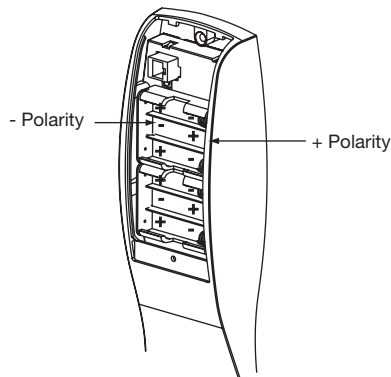

Fig. 2
3. Place (6) "AA" batteries into the compartment being careful to align polarity properly (Ref. Fig. 2).